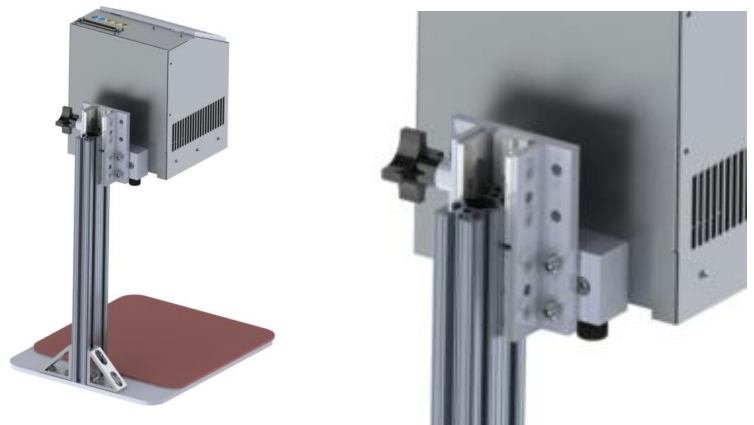

Figure 4. Slide Carriage into Stand
5. Slide the carriage onto the stand upright, being sure to align bearing pads and t-nut into slot (Figure 4).